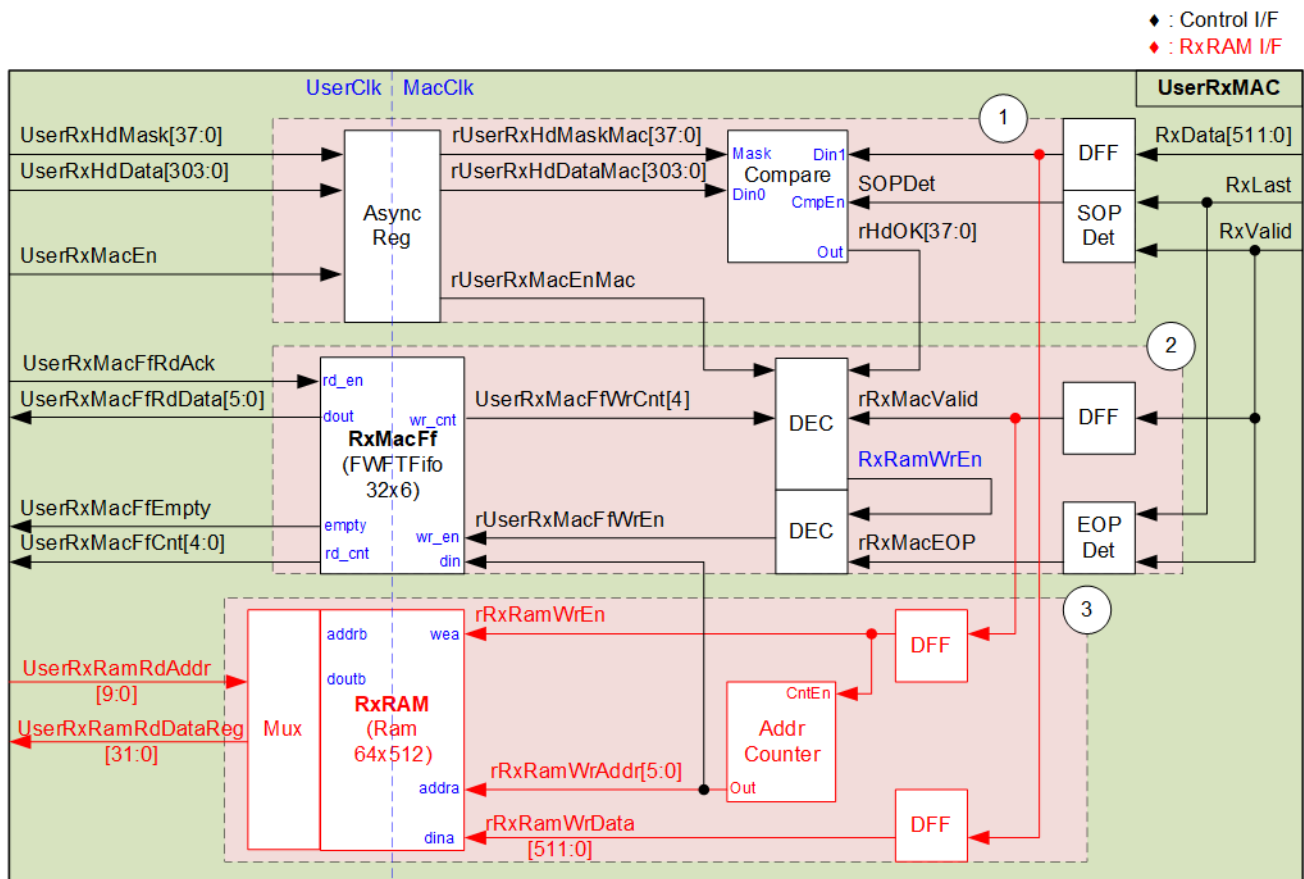

Figure 2-8 UserRxMAC Logic Diagram
UserRxMAC has three operations to validate the received packet and store the valid packet to RxRAM which is 64 x 512-bit Asynchronous dual port RAM. Therefore, the logic inside UserRxMAC can be divided to three groups. First is the logic to verify 38-byte header (byte#0 – byte#37) of each received packet. The expected value and mask bit to enable data comparison are set by user. Only the packet that includes the correct header can be accepted. Second is the logic to check enable flag from user and free space in RxMacFf. The packet will be rejected if the user disable this module or FIFO has not enough space. RxMacFf is applied to store the end address of RxRAM after finishing storing the received packet. Therefore, CPU determines the received packet size from the end address. Third is the logic to store the received packet to RxRAM. More details about the logic design inside UserRxMAC is shown in Figure 2-8.
As shown in Figure 2-8, Block (1) is the logic to verify 38-byte header of each packet. Block (2) is the logic to store the end address of RxRAM and Block (3) is the logic to store the received packet. The details of UserRxMAC operation when the packet is received are described as follows.